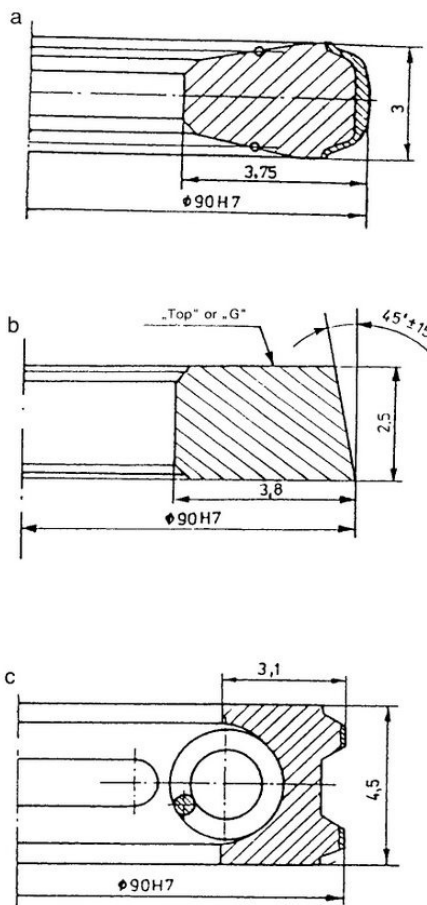

Fig. 25. Piston rings
- Prepare all parts which belong to a subassembly; elasticity resistance of the piston rings should be according to values given in a Fig. 25 a, b, c.